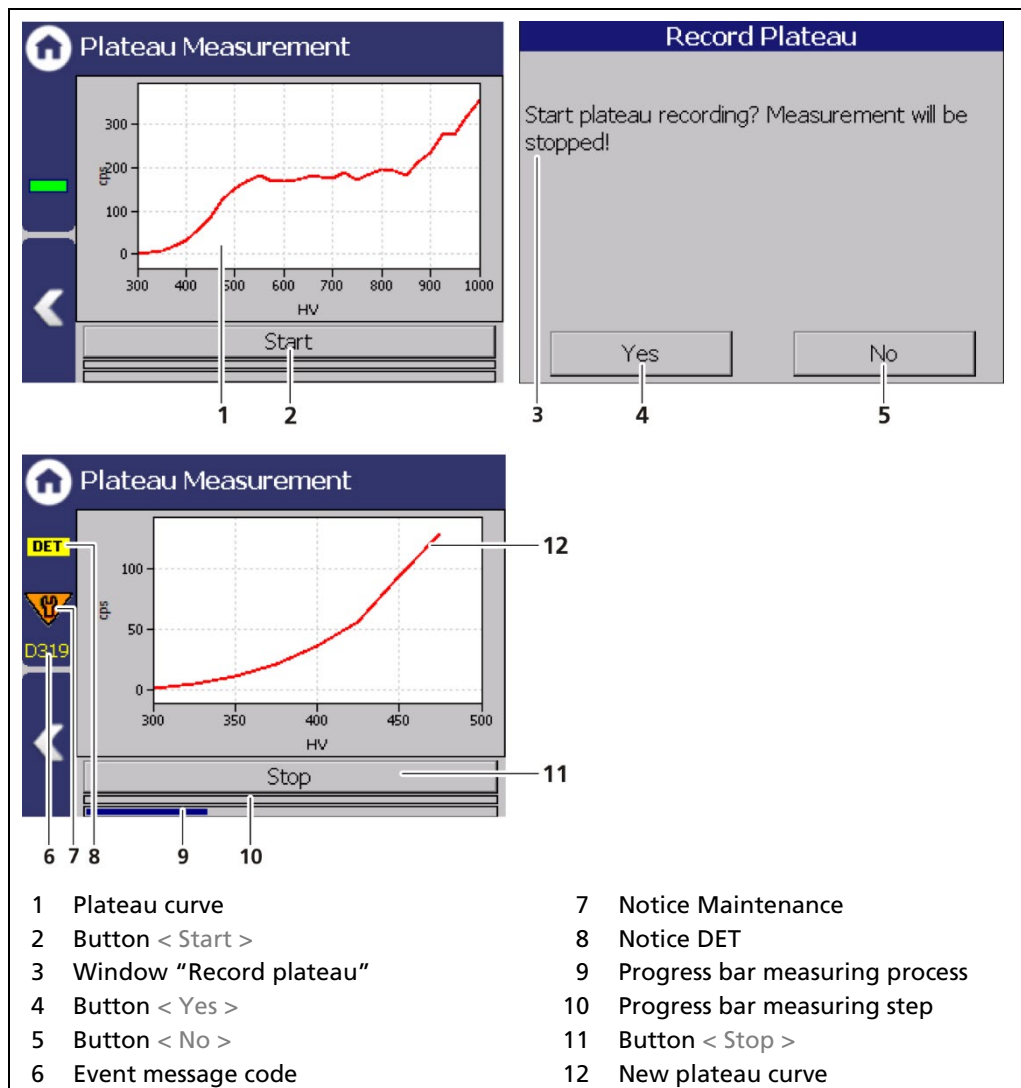

Fig. 60 Recording a plateau curve
1. Click on < Start > (Fig. 60, item 2) to perform a plateau measurement.
- ▶ The confirmation message "Record plateau" (Fig. 60, item 3) opens.
2. Confirm with < Yes > (Fig. 60, item 4).
- ▶ The EVU switches to mode "DET" (Fig. 60, item 8) and the current measurement is stopped.
- ▶ The information (Fig. 60, item 6 - 8) from the plateau measurement are displayed in the status information. The LED Run flashes on the EVU during the plateau measurement. The LED "Warning" LED lights up at the same time.